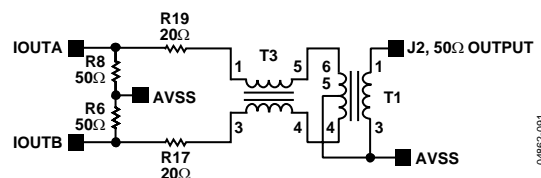

Figure 91. IF Signal Output Circuit
The distortion components should be identical in amplitude and phase at both AD973x outputs. Even though each single-ended output includes a large amount of second-harmonic energy, a careful differential-to-single-ended conversion can remove most of it. Optimum performance at high intermediate frequency (IF) outputs is obtained with the output circuit shown in Figure 91. This is the configuration implemented on